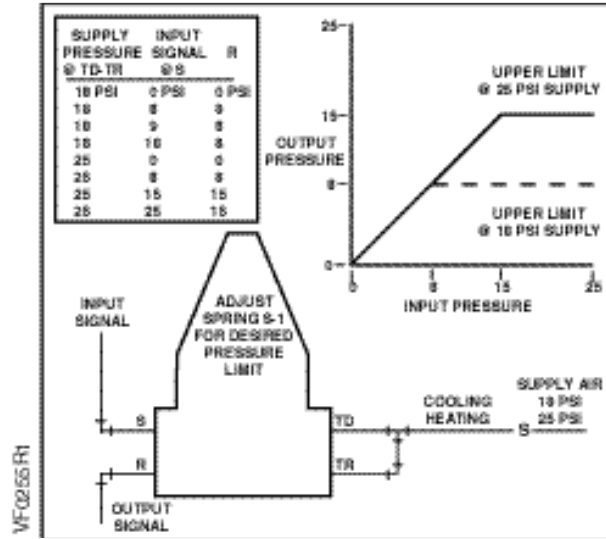

Figure 5. Seasonal Pressure Limiting with Dual Pressure Systems.
4. Seasonal pressure limiting with dual pressure systems (See Figure 5).